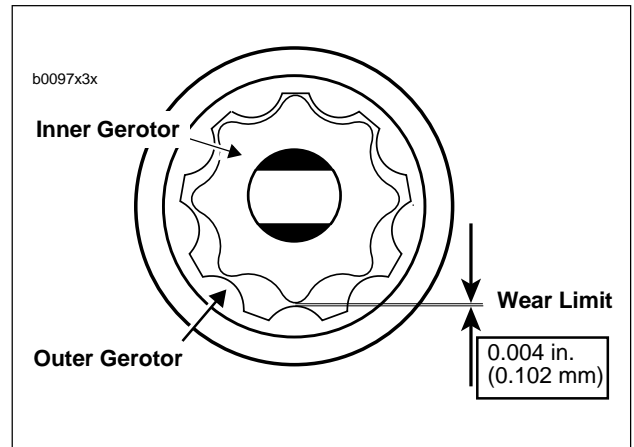

Figure 3-53. Gerotor Wear Limits
- See Figure 3-53. Inspect both gerotor sets for wear.
- Check gear shaft (11) teeth for damage or wear. Replace if necessary.